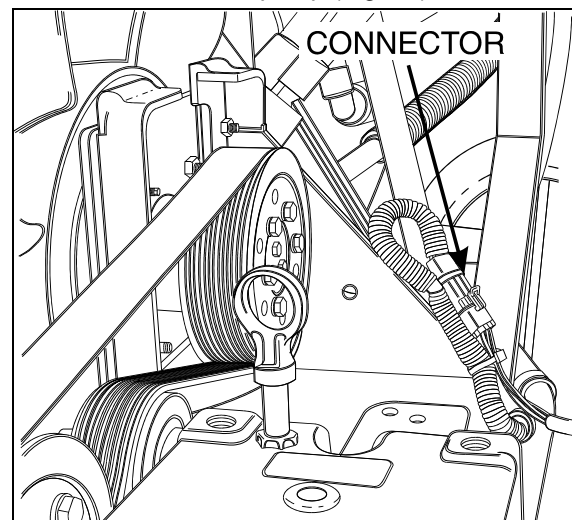

FIGURE 15: ENGINE COMPARTMENT
6. Disconnect and remove the engine-air intake duct mounted between air cleaner housing and turbocharger inlet (1, Fig. 15).
10. Disconnect the electric fan-clutch connector, close to the water pump (Fig. 15).